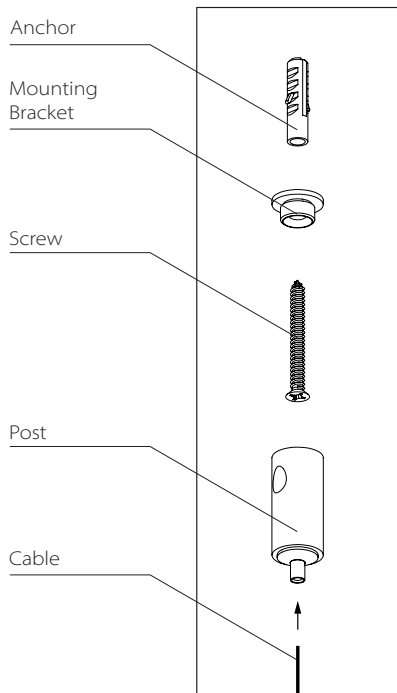

Fig. 2
3. Install the Mounting Brackets to the ceiling with Anchors and Screws, then screw the Posts onto the Mounting Brackets (Fig. 2).
3. Slide the outer braided conductor back to create a bulge and reveal the inner stranded conductor (Fig. 2).